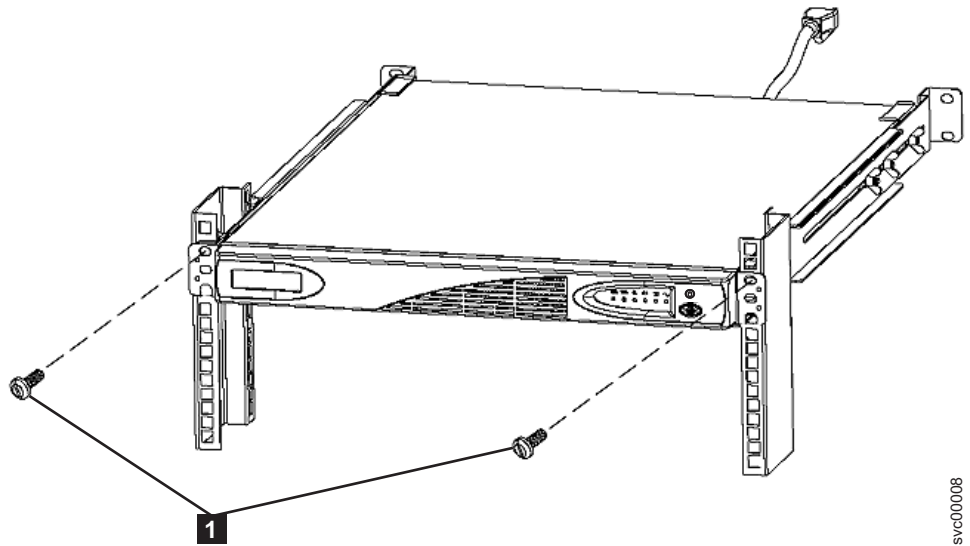

Figure 31. Mounting screws for the 2145 UPS-1U
2. At the front of the 2145 UPS-1U, install the two mounting screws (M6x10) **1** as shown in Figure 31 on page 39.